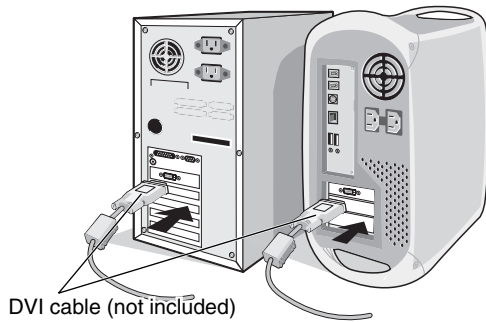

Figure A.1
2. **For a PC or MAC with DVI digital output:** Connect the Dual Link DVI signal cable to the connector of the display card in your system (**Figure A.1**). Tighten all screws.